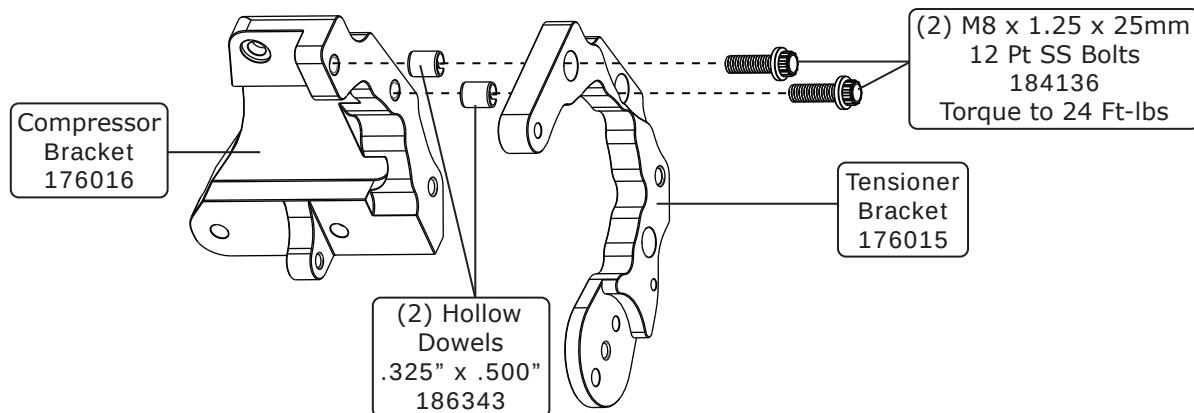

Figure 1
1. Assemble the two-piece bracket as shown in Figure 1, below.